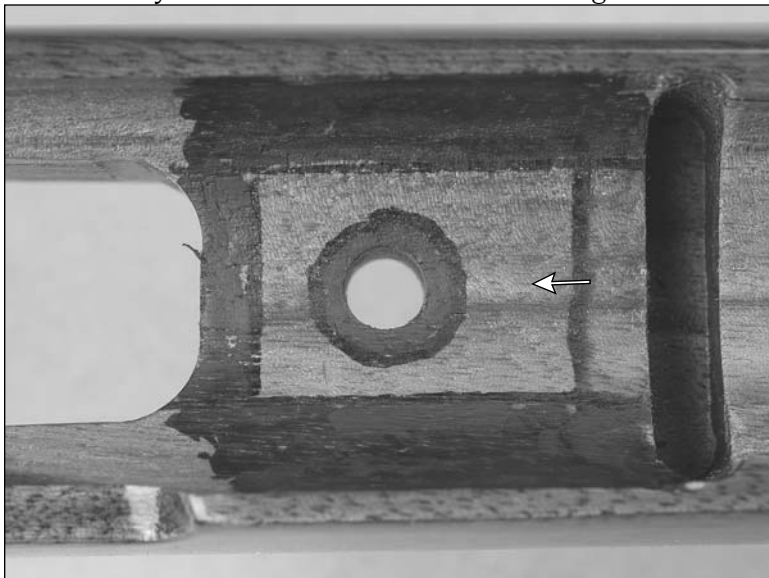

Figure 4C: The wood to be removed is that portion that hasn't been colored over with a marking pen, as indicated by the white arrow.
4. It is necessary that the newly cut recess not extend across the entire width of the original inletted surface, but only about the center three-quarters. The remaining stock material will keep the barreled action from shifting out of position, rearward. At this time, to ensure maximum contact of the area between the recoil lug and the magazine box and the corresponding portion of the bottom of the receiver, the stock can be relieved to a depth of approximately 1/8”. Use the marker to cover the areas of contact that you want to preserve. (See Figure 4C).